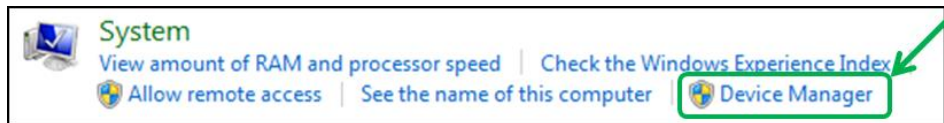

Fig. 19 System window.
- Navigate through **System and security, System to Device manager** (Fig. 19)